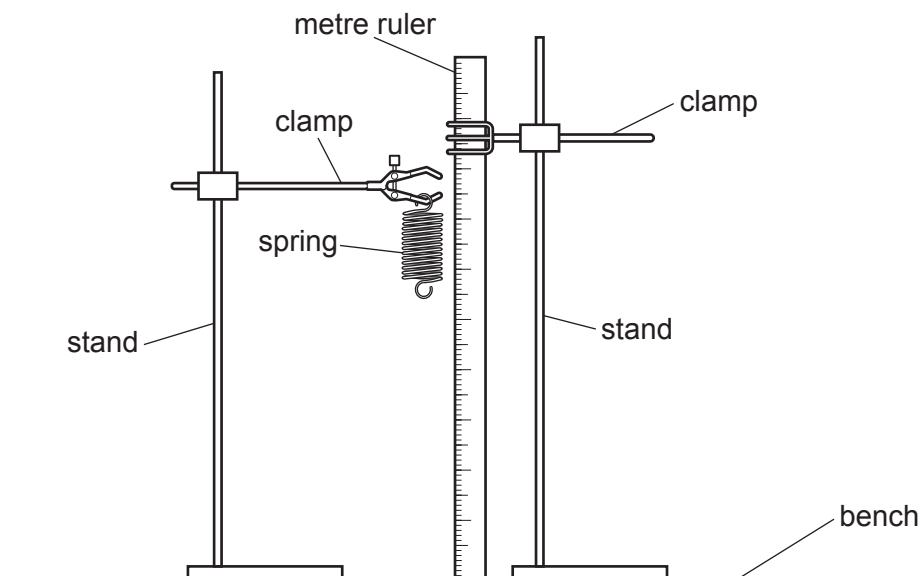

Fig. 6.1
1. The apparatus is to be set up for candidates as shown in Fig. 6.1. The spring must be sufficiently high above the bench so that when the 400g load is suspended from the spring, the bottom of the load is above the surface of the bench.
Restore the apparatus to the set-up shown in Fig. 6.1.